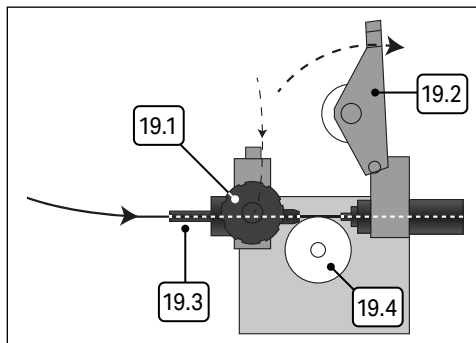

Fig. 2
7.5 Installing The Filler Wire (MIG Welder) – Figs. 2 – 6